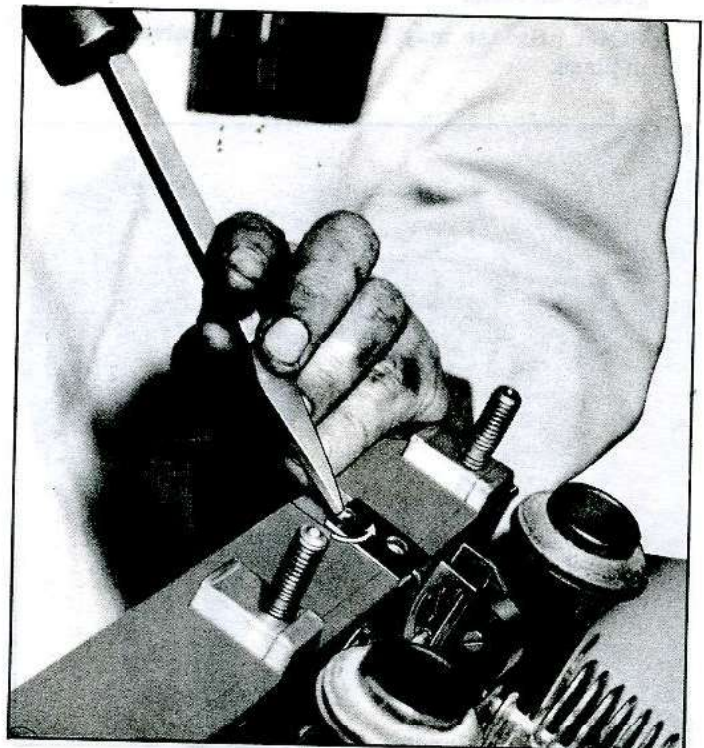

Fig. 92—Choke Coil Removal
1. Using a sharp chisel and hammer, with light blows (fig. 92) (hard blows will snap head off twist rivet), tap head of twist rivet in a counter-clockwise direction until rivet starts out.